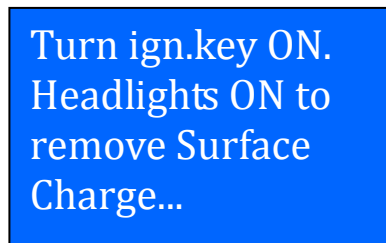

Figure 16
7. If the surface charge is too great for the analyzer to handle, it will prompt you with the instructions as shown: (Fig. 16) below.